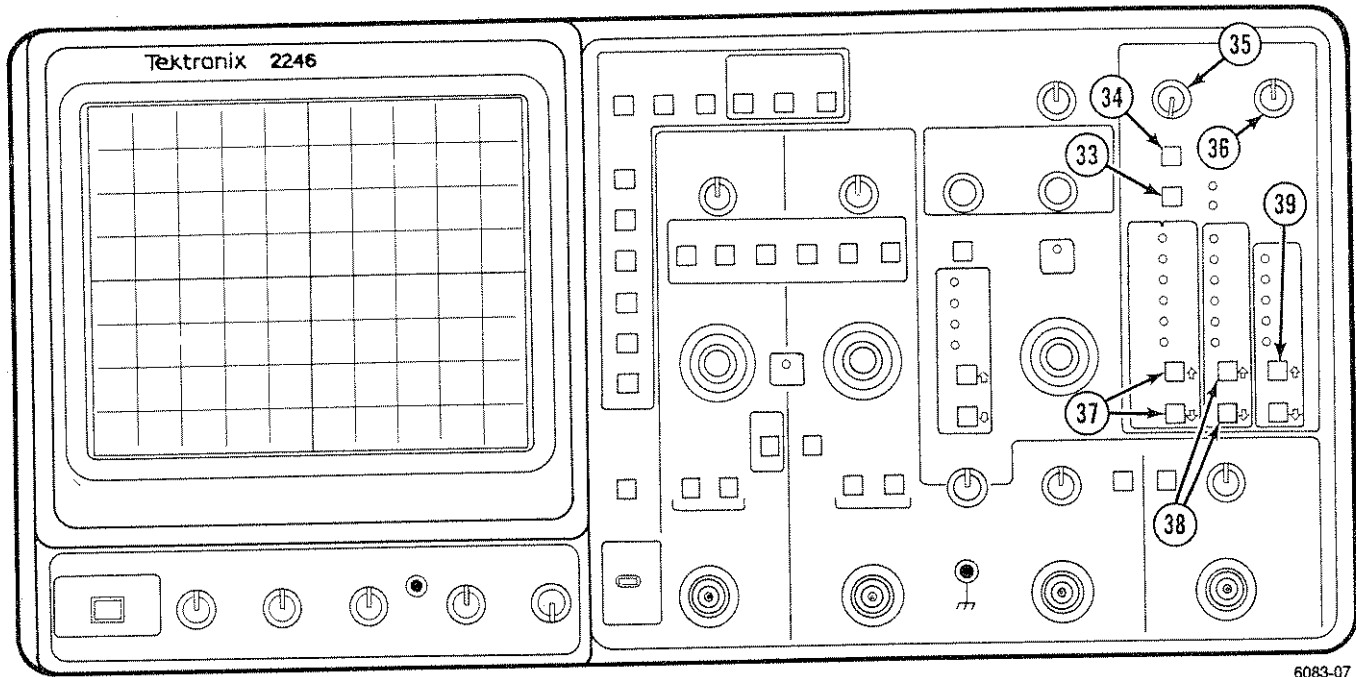

Figure 3-5. Trigger Controls and indicators.
See Figure 3-5 for items 33 through 39.